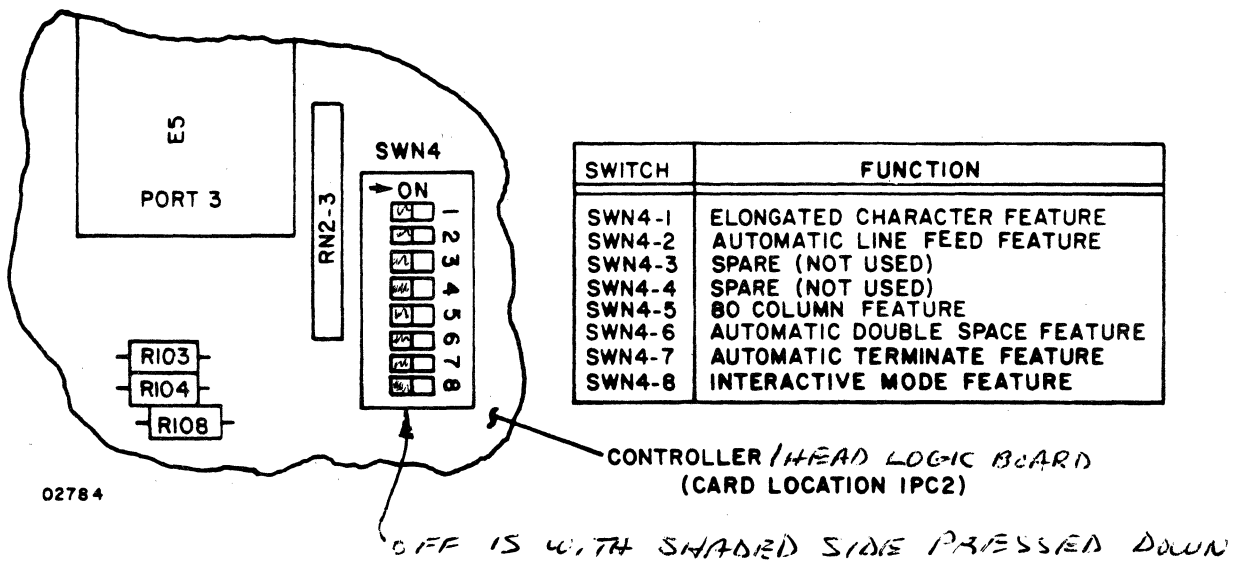

Figure 70-9. Controller/Head Logic Board Switch Settings
- a) Check that all eight selection switches on board are set to the off position (figure 70-9).